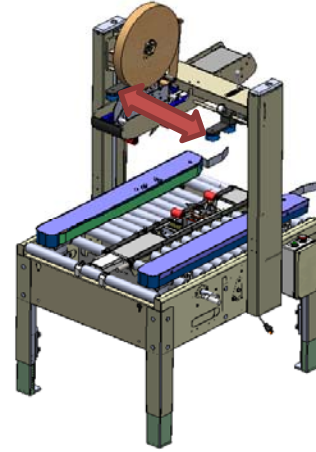

Figure-26
- c. Loosen Each Locking Knob And Open Top Squeezers as shown in **Figure-26**